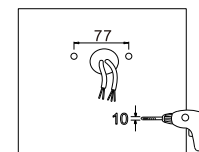

Figure 19
Step 1: Drill holes on the wall as shown. (Figure 19)